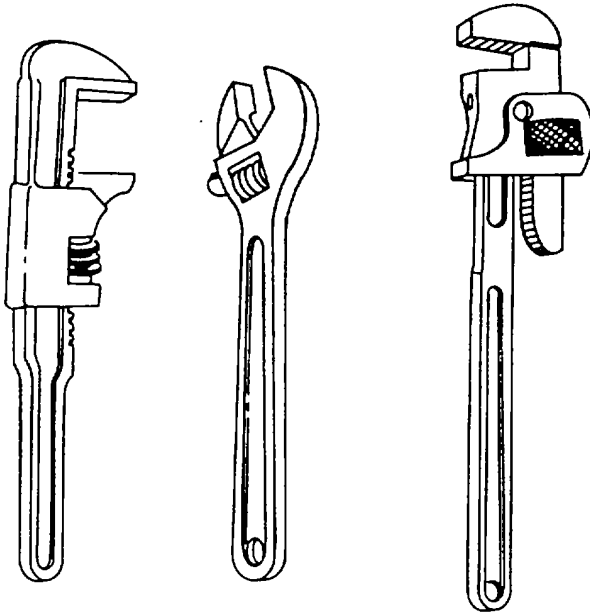

Figure 4-25. Adjustable Wrench
(4) *Adjustable wrench.* Adjustable wrenches include crescent, auto, and pipe wrenches, shown in figure 4-25. These wrenches are generally intended for use on odd-sized nuts and bolts, and are adjusted by a knurled worn gear, which moves the movable jaw to fit the part. Adjustable wrenches are available in sizes ranging from 4 to 24 inches in length. The jaw capacity is proportional to the handle length.